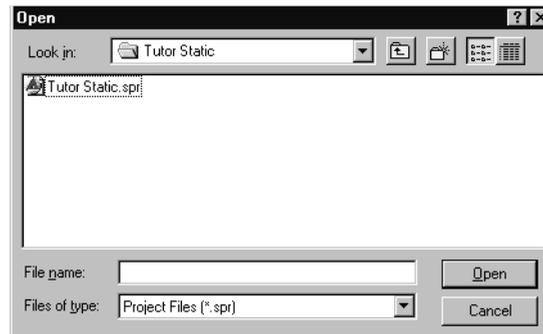

Figure 3.8. Open Dialog Box
2. In the **Open** dialog box, Figure 3.8, navigate to the filename of the project you wish to open. A project file has the extension `.spr`.